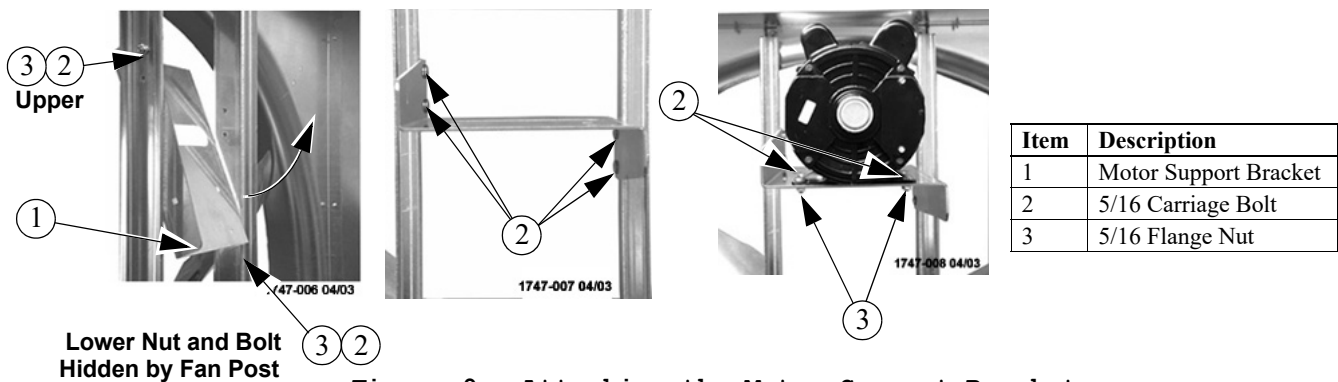

Figure 9. Attaching the Motor Support Bracket
Rotate the Motor Support Bracket into the upright position by removing the **Upper** Carriage Bolt and Nut and loosening the **Lower** Bolt and Nut (See **Figure 9**). Rotate the Motor Support Bracket until it is perpendicular to the Fan Posts and fasten with (4) 5/16 Carriage Bolts and (4) 5/16 Flange Nuts. *Note that the Nuts go outside the Posts.* Remove the Motor from the Crate and attach it to the Motor Support Bracket with (4) 5/16 Carriage Bolts and (4) 5/16 Flange Nuts **as shown**.